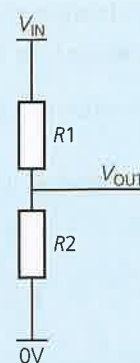

Figure 1.2
- c The **voltage** or **potential** divider equation for the circuit diagram in Figure 1.2 is given as an equation of two ratios as follows: